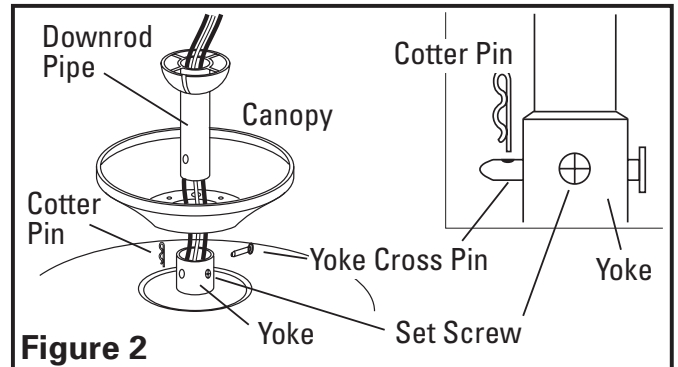

Figure 2
1. Install motor leads through canopy then through the hole in the center of the downrod pipe. Insert downrod pipe into yoke. Make sure to align hole in downrod with the hole in the yoke. Lift canopy and install yoke cross pin through yoke and downrod. Insert cotter pin into cross pin until it snaps into place. Using a Phillips head screwdriver, firmly tighten set screw in yoke (Figure 2).